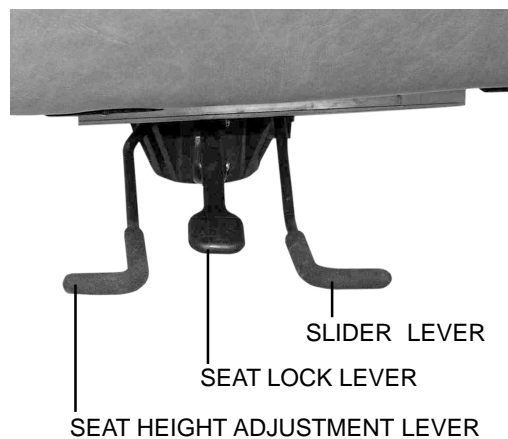

Figure 15. Seat Adjustments
1. To raise the seat, pull upward on the seat height adjustment lever while taking your weight off of the seat. See figure 15.
1. Pull up on the seat lock lever to unlock the seat. See figure 15.